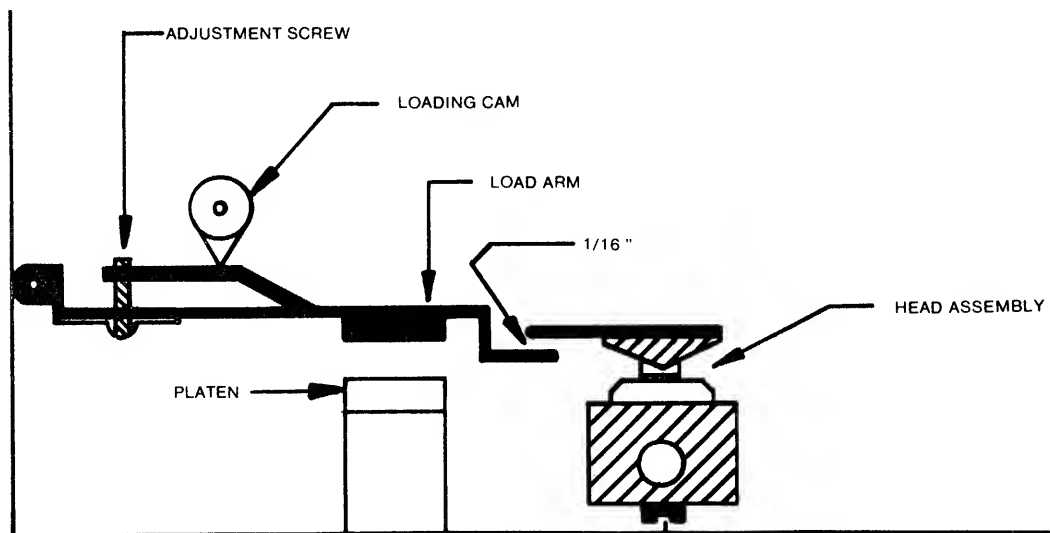

Figure 4-12. Load Arm Adjustment, Front View
This adjustment is made to ensure proper loading of the head when the diskette is engaged (see figure 4-12).
4. Adjust the Allen screw located behind the head load cam until there is a space of  $1/16$  inch (see figure 4-12).